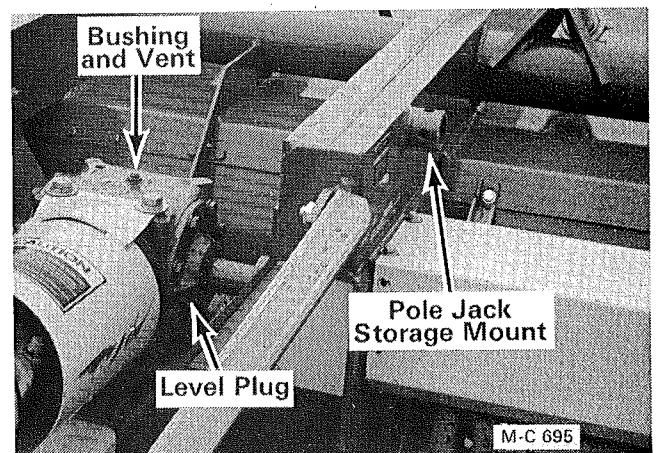

Figure 25
1. Periodically check the oil level in the gear box. Remove the oil level plug on the left side of the gear box, see Figure 25.